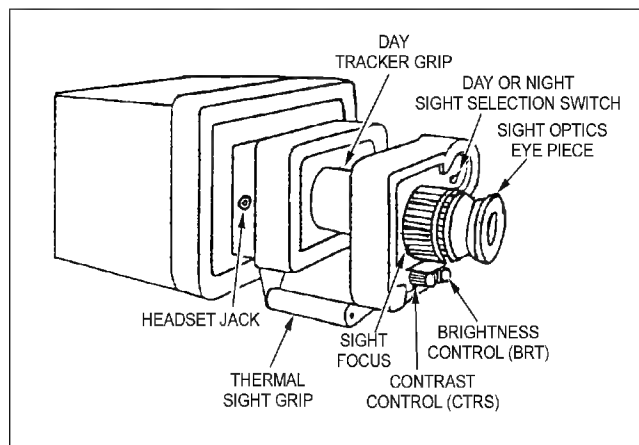

Figure B-9. Sight assembly.
a. **Sight Assembly.** The DGT sight assembly (Figure B-9) operates as either the daysight or nightsight, depending on the mission loaded at the instructor console. The sight displays the mission visual signals. The sight assembly attaches to the Dragon launch assembly.